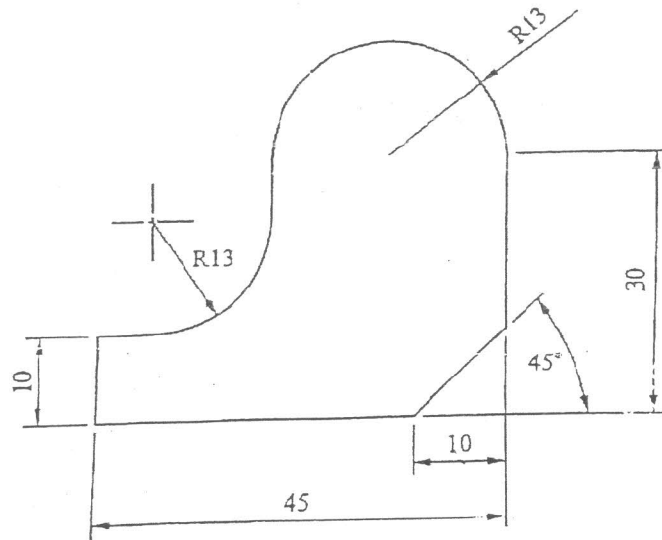

Figure 2
- (B) A triangle PQR has its vertices at P (0,0), Q(4,0) and R (2,3). It is to be translated by 4 units in X direction, and 2 units in Y direction, then it is to be rotated in anticlockwise direction about the new position of point R through 90 degrees. Find the new position (vertices) of triangle. 10
- Q.3(A) Select at least an 8 member team and mention their role to form a “Concurrent Engineering Team” for design and development of a “Computer Table” which can house a “Monitor”, “CPU”, “Key Board”, “Mouse”, “DVD box of 100 units”, “Printer cum scanner”, “note pad and pen stand”. 10
- (B) Explain with block diagram Computer Aided Quality Control (CAQC) in detail 10
- Q.4 (A) Write short note on (i) Product life cycle (ii) Visual realism 10
- (B) Write a complete APT program (geometric and motion commands) to machine the outline of the geometry as shown in Figure 2. The component is 5 mm thick. The end mill used is 5 mm in diameter. Consider spindle speed as 1000 rpm and feed as 0.3 mm/rev. Assume suitable data if necessary. 10